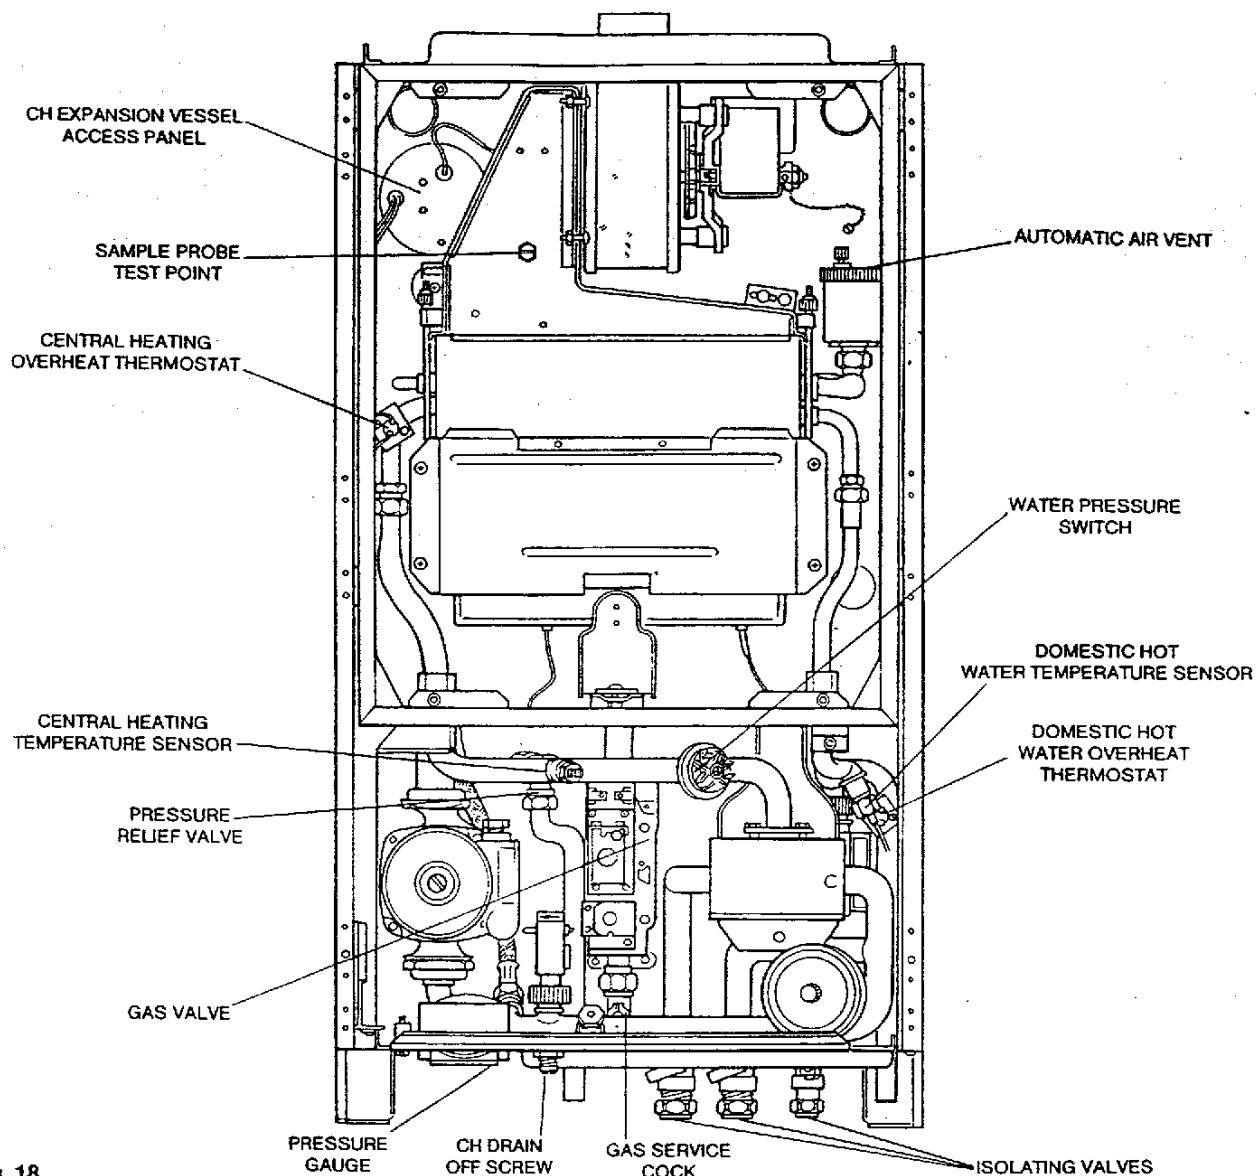

Fig. 18
3. INITIAL LIGHTING (See Fig. 18)
- Check the operation of the pressure relief valve by further raising the water pressure until the valve lifts. This should occur at approx 3 bar (See Fig. 18).